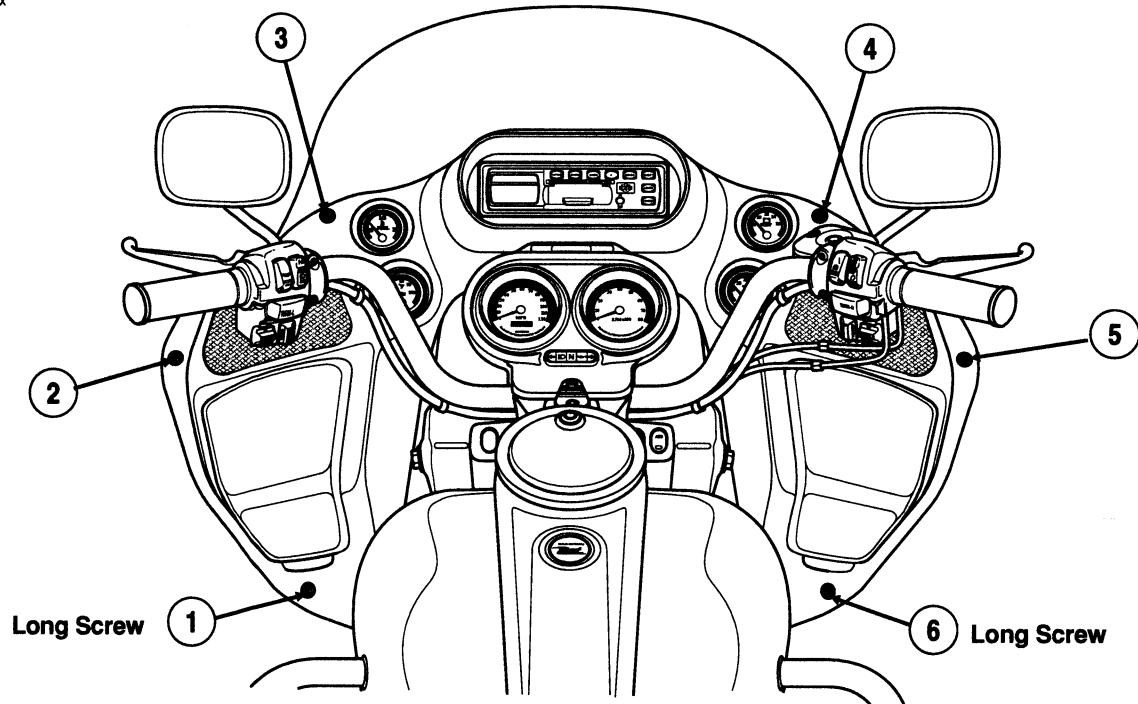
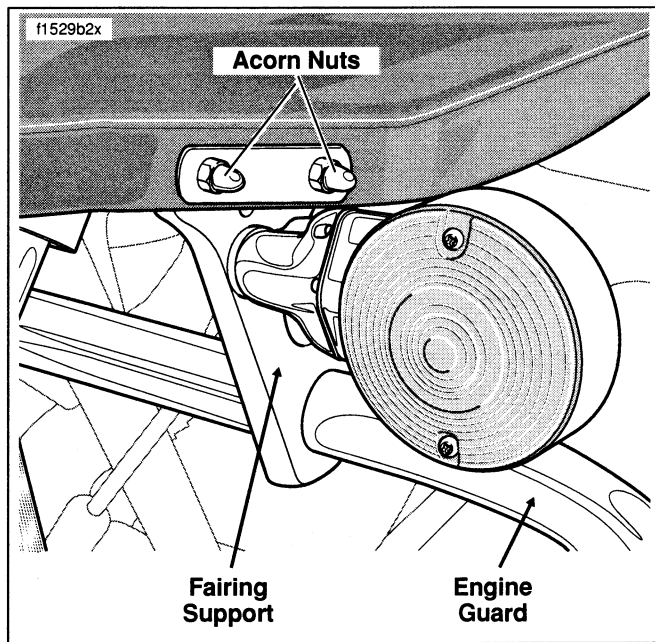

Figure 58. Outer Fairing Screws
Figure 59. Acorn Nut Removal (Left Side)
2. See Figure 58. Standing on left side of vehicle, use a T-25 TORX® drive head to remove screw (item 1) just below glove compartment.
3. Remove screw (item 2) at edge of fairing outboard of the left speaker.
4. Loosen top left and right screws (items 3 & 4) just outboard of the fuel and volt gauges, respectively.
5. Remove screw (item 5) at edge of fairing outboard of the right speaker.
6. Remove screw (item 6) just below right side glove compartment.
7. See Figure 59. In area of front turn signal lamp, remove two acorn nuts with flat washers from studs. Repeat step on left side of vehicle.
5. See Figure 58. Using a T25 TORX® drive head, start the top right (item 4) and left (item 3) screws just outboard of the volt and fuel gauges, respectively. Mounting bosses are painted white for easier alignment of screws.
7. See Figure 59. Install flat washers and acorn nuts on studs. Tighten acorn nuts to 40-50 **in-lbs** (4.5-5.7 Nm) torque. Repeat step to install stud plate on right side of vehicle.
8. Install the first of two long screws (item 6) just below the right side glove compartment.
9. Install screw (item 5) at edge of fairing outboard of the right speaker.
10. Moving to left side of vehicle, install the second of two long screws (item 1) just below the glove compartment.
11. Install screw (item 2) at edge of fairing outboard of the left speaker.
12. Alternately tighten four short fairing screws (items 2, 3, 4, & 5) to 6-12 **in-lbs** (0.7-1.4 Nm) torque.
13. Alternately tighten two long fairing screws (items 1 & 2) to 12-15 **in-lbs** (1.4-1.7 Nm) torque.